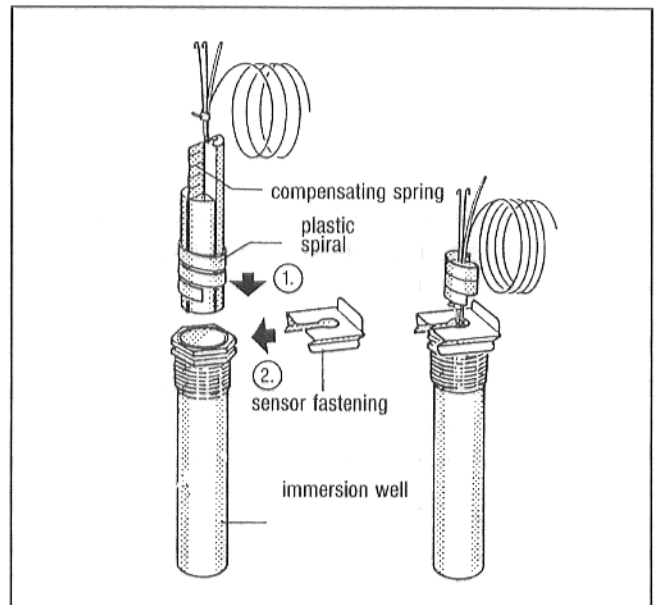

Fig. 8 – Schematic illustration
- The plastic spiral for holding the sensors and spacers together is pushed back automatically when pushed in (Fig. 8).
- To make the contact between the immersion well and the surface of the sensor so that the temperature is transferred reliably, the compensating spring must be pushed in between the spacers and the sensor (Fig. 8).
- Push the sensor fastening from the side or the top onto the head of the immersion well (Fig. 8).